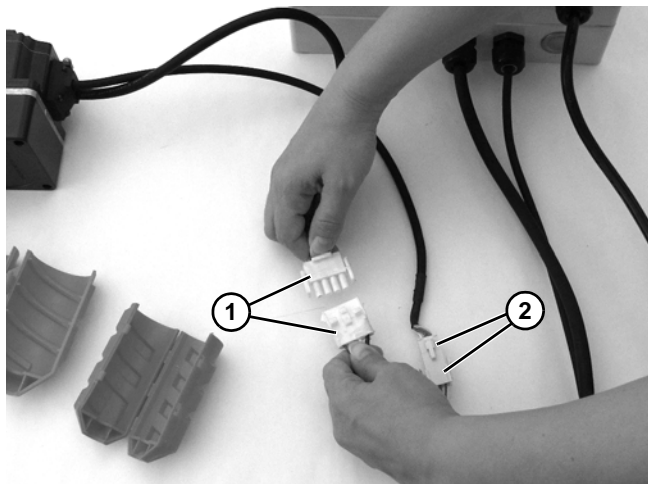

Figure 32
4. Unplug motor cord connectors (Figure 32, item 1) and signal cable connectors (Figure 32, item 2).